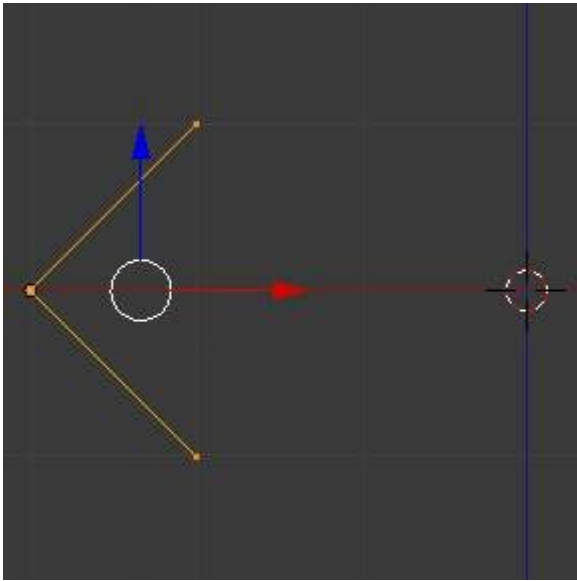

Fig. 14 - Profile for a perfect screw spindle. The starting and ending vertices are forming a parallel line with the Blender Axis
- Grab this vertex using the shortcut **G-X**, type **-1** and **Return**. See Fig. 14 - Profile for a perfect screw spindle.